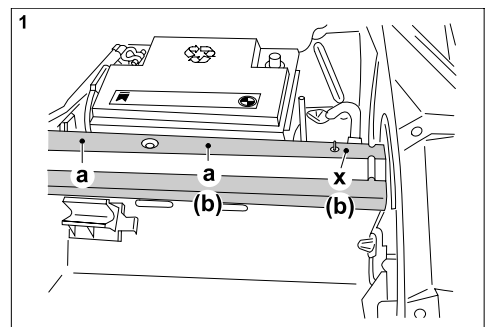

Fig. 1 : Holes in luggage compartment, right
- 4.) In the luggage compartment, drill three 14 mm ø holes (at " a " and " x ") in the upper section of the frame side member on the right and left at the centre punch marks. Working through the centre and the rear hole (near rear panel), also drill through lower sections of frame side member at " b " with 14 mm ø from above (centre punch marks provided); see Figs. 1, 2 and 8.